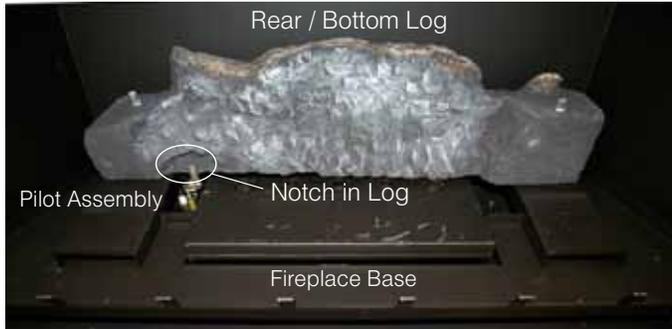

Figure 30a. Placing Bottom Rear Log.
Step 2. Place the bottom Rear log as shown in figure 30a.